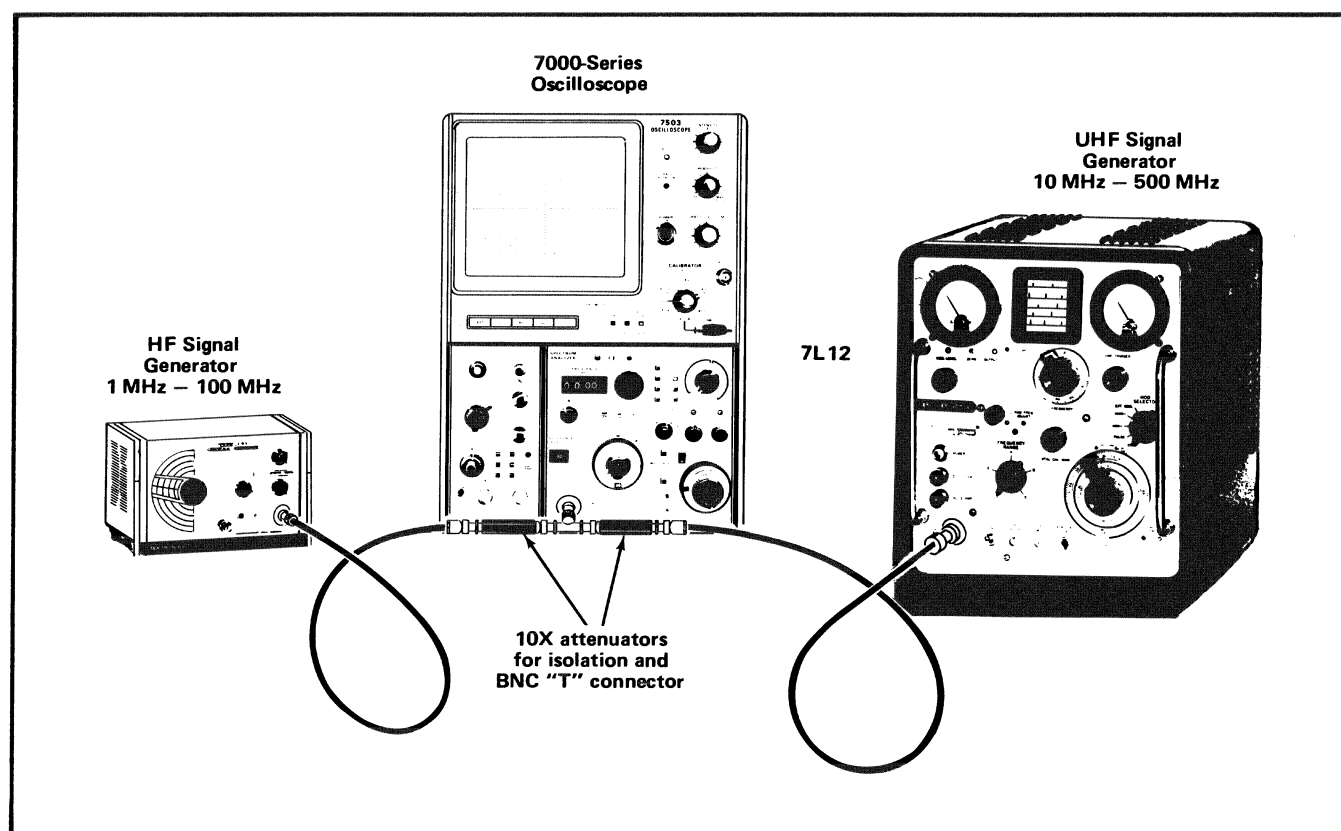

Fig. 3-7. Equipment setup and connections necessary to measure intermodulation distortion.
b. Apply two signals, separated approximately 2 MHz, from the output of two $50\ \Omega$ signal sources, through 10X attenuators (for isolation) then through a BNC 'T' connector, to the RF INput of the 7L12. Fig. 3-7 illustrates this setup.